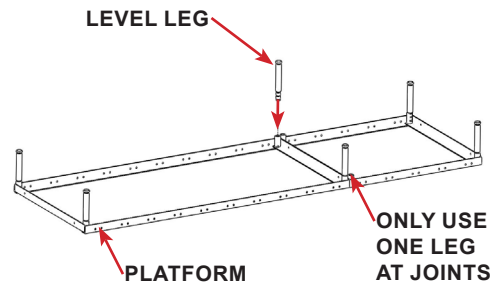

FIGURE 2.7 - Cage Bank Platform
**STEP 3:** For cage bank platforms (attached in series), insert a leg into each of the four end corners. See FIGURE 2.7
**STEP 4:** Insert one leg in the front and back where the platforms are joined together. There are two sockets where the platforms join, only one leg at the front and back is required at the platform joints. See FIGURE 2.7